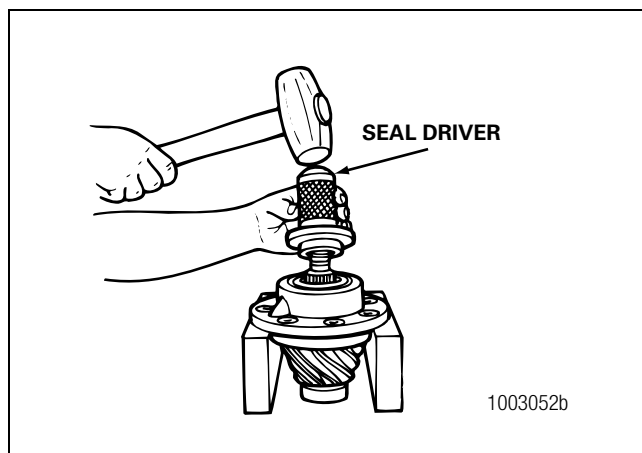

Figure 5.21
- **If a press is not available:** Use a mallet and the sleeve or driver to install the seal. Figure 5.21.